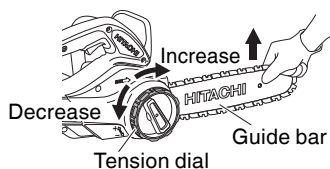

Fig. 10
5. Adjusting the saw chain tension (Fig. 10)